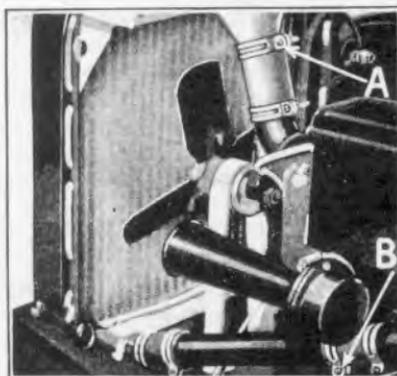

Fig. 525
- 1127 Loosen cylinder head outlet hose clip screw (see "A" Fig. 525) also cylinder water inlet hose clip screw "B".